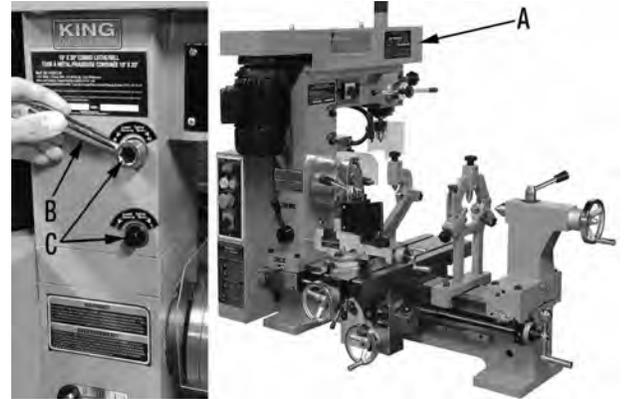

FIGURE 7
**IMPORTANT:** Before using this machine in Metal Lathe mode, the Mill/Drill head (A) Fig.7 must be pivoted out of the way towards the rear of the machine to allow for clearance and avoid any form of contact with moving Metal Lathe parts.
Using the supplied key (B), loosen both head locks (C) and pivot the Mill/Drill head towards the rear of the machine as shown in Fig.7. Retighten both head locks (C).